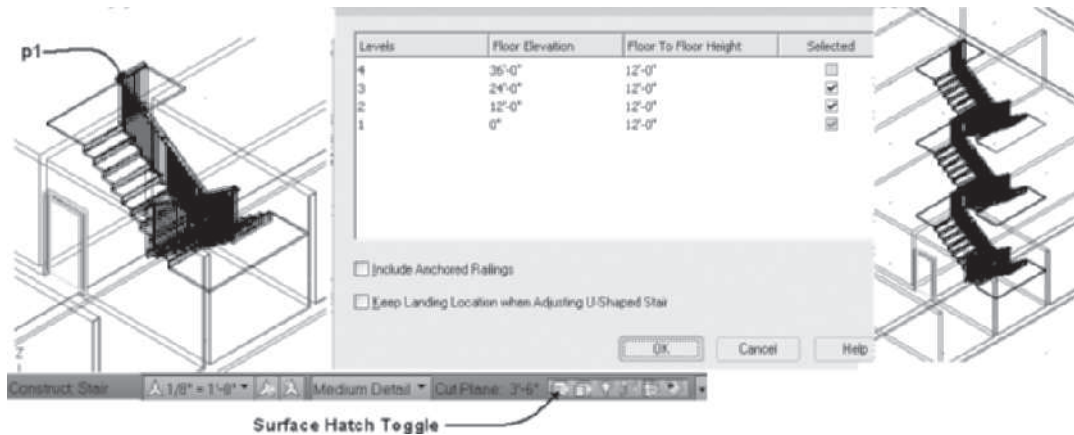

FIGURE 9.69 Stair and railing generated for a stair tower
11. Select **SW Isometric** from the **View Cube**. To turn off the surface hatch and choose **Surface Hatch Toggle** from the **Drawing Window** status bar (see Figure 9.69).
Select railings and slabs: (Select the railing at p1 as shown in Figure 9.69.) 1 found
(The stair tower is generated as shown at the right in Figure 9.69.)